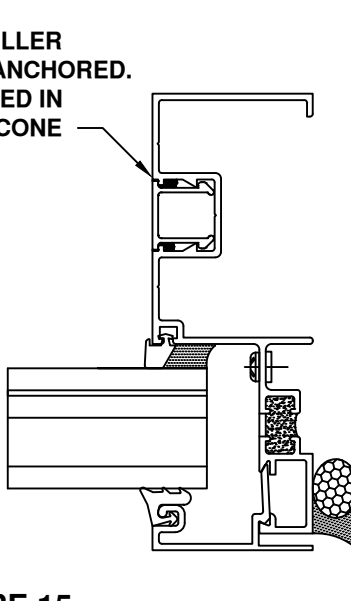

FIGURE 15
- 4.3 If optional jamb member BRW-513 is used, install the BRW-514 jamb filler. Filler must be set in continuous bead of silicone. See FIGURE 15, page 16.